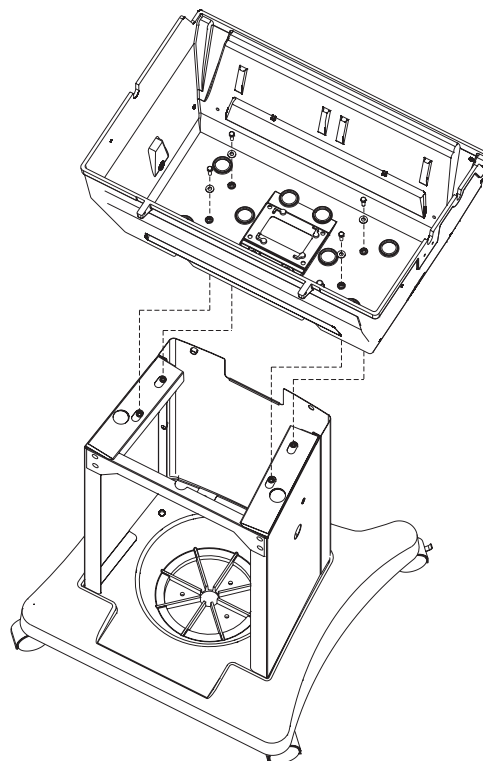

Figure 7
7. Secure the grill head to the cart using four 1/4-20 x 3/4" Hex Head Bolts and 1/4 x 5/8 Flat Washers. See Figure 7. **Note:** To ease assembly, you may wish to install the ignitor as shown in your Broilmaster® grill manual before attaching the grill to the cart.